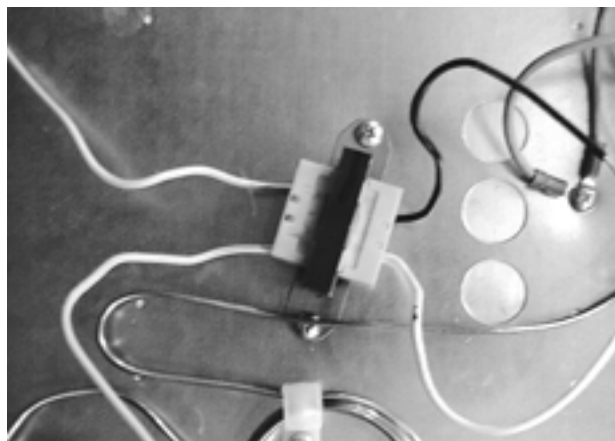

Figure 4-39
3. Disconnect the black and white wires on the transformer from the power and neutral wires in the wiring box (Figure 4-39).
4. Disconnect the yellow wires on the transformer from the (2) gray wires on the transformer probe (Figure 4-39).